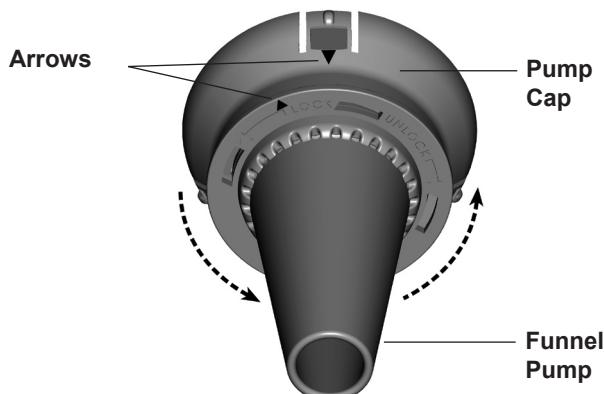

**Figure 17**
3. Place the Atomizer in the Upper Reservoir, aligning the three oval holes in the Atomizer with the three prongs in the Upper Reservoir. The side of the Atomizer with three short posts should be facing upward. See Figure 17.